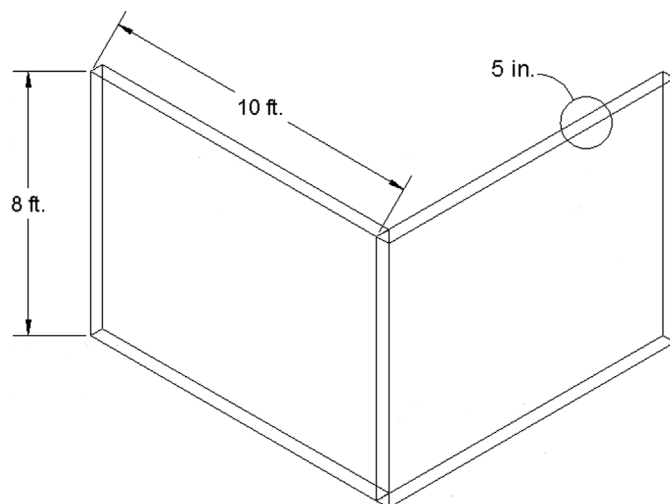

FIGURE 23.11 3D modeling exercise, Step 1.
- Step 1.** Draw two walls that are 8' high and 10' long, with a thickness of 5". One way to do this is to first draw a rectangle that is 5" \times 10' and extrude it to 8'. Then, copy the structure and reattach the copy at 90° to the original wall. Fig. 23.11 shows what you should see in wireframe mode.